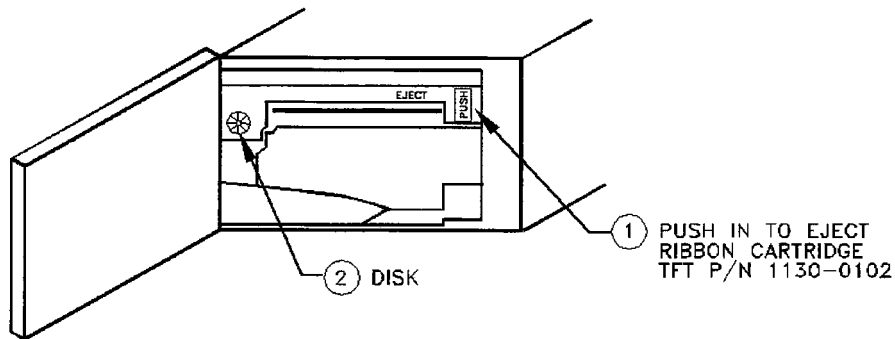

Figure 8.4-3. Ribbon Cartridge Replacement
Carefully press the door and bracket in vertically opposite directions until the latch is released. Do not pull the door and bracket apart without first releasing the catch. See figure 8.2 item (3). Swing the chassis back leaving the door fully open. This will expose the printer mechanism and ink ribbon cartridge. Refer to figure 8.4-3.
- (1) Press in on the end of the ink ribbon cartridge marked "PUSH", and carefully remove the used cartridge. Push replacement cartridge in place, ensuring that the paper lies between the ribbon and the steel printer plate, and the ribbon cartridge spindle is correctly seated over the printer ribbon drive shaft. Ensure that the ribbon is taut and parallel to the paper. If necessary, tighten the ribbon by turning the faceted disk (2) clockwise using your fingernail or small blade screwdriver. Make sure the paper protrudes through the front of the printer mechanism. Ensure that the paper will pass clearly through the guide channel and past the tear bar before snapping the bracket shut against the back of the door.